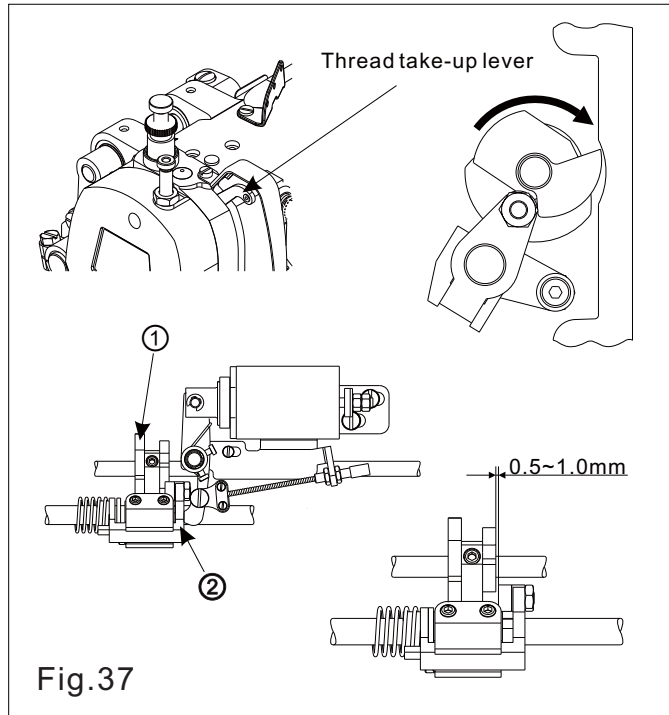

Fig.37
5. Installing the trimming cam (Fig.37)